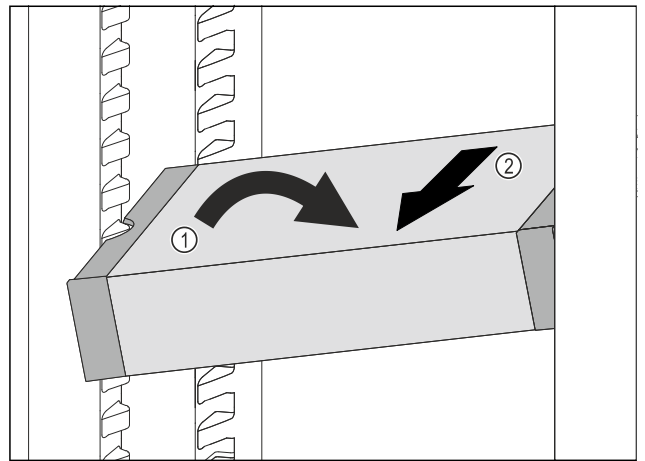

Fig. 204
- ▶ Set VarioSafe in refrigerator compartment at an angle. Fig. 204 (1)
- ▶ Take VarioSafe out to the front. Fig. 204 (2)